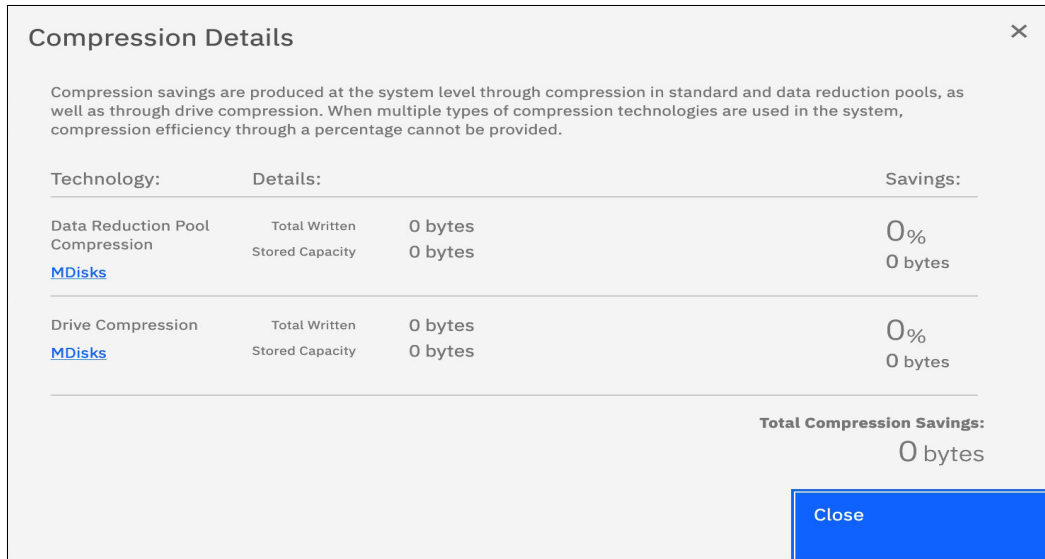

Figure 4-7 Compression Savings dashboard report
- ▶ As the savings from DRP (compression and deduplication) provided at the DRP level, as shown in Figure 4-7 on page 138.